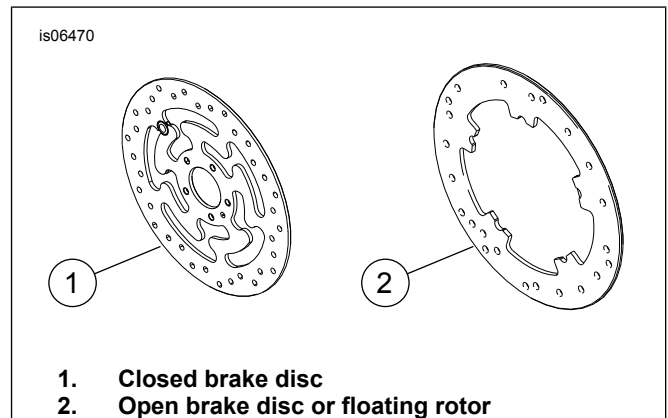

Figure 1. Front Brake Disc Styles
- Brake Disc Screws ( See Figure 1. and Table 1 )